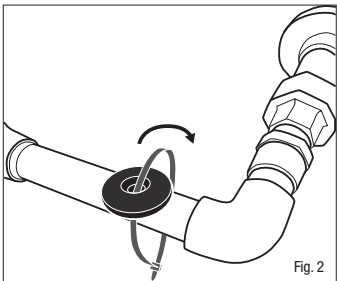

Fig. 2
- Thread the cable tie through the desired location on the equipment and the tag with the T.O.P. side facing out (See Fig. 2).